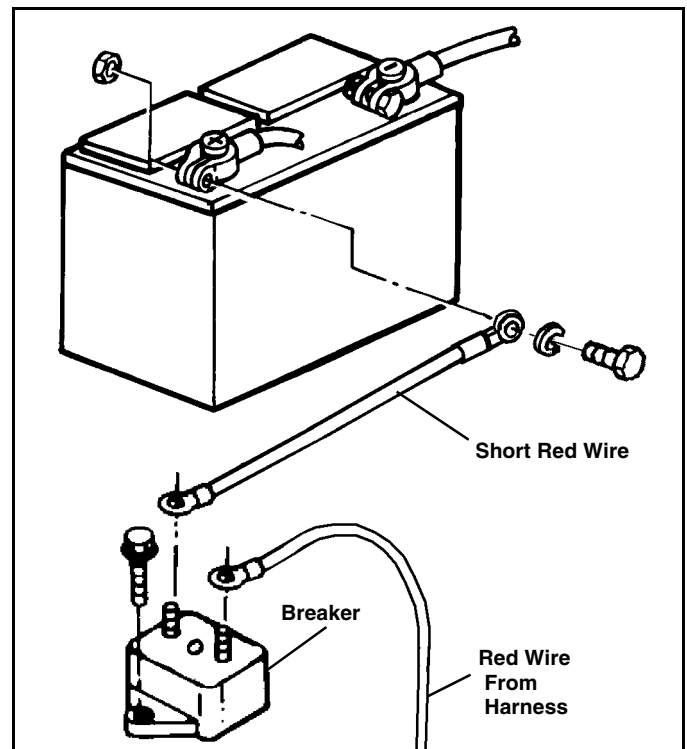

Figure 2-4
8. Locate short red wire (#96102362) with two ring terminals. Attach the small ring terminal to the copper colored post marked BAT on the breaker. Attach the other, large ring terminal to the battery positive terminal. (See Figure 2-4)